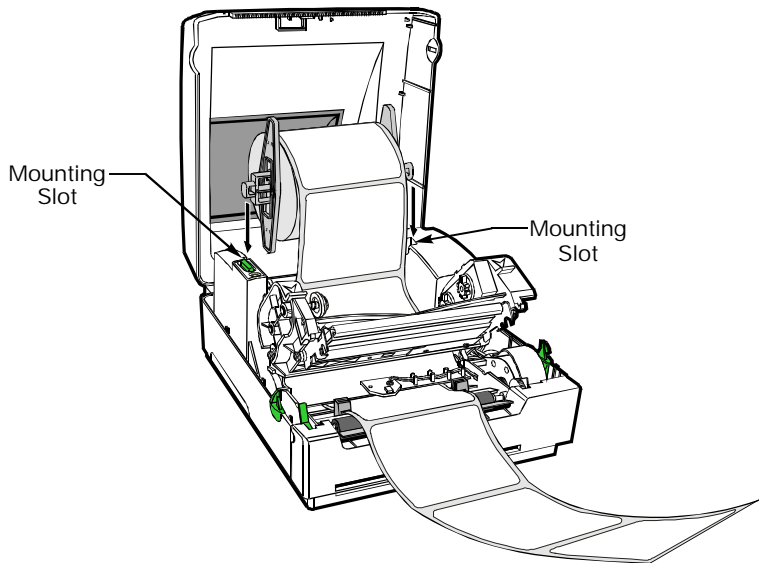

Figure 14
10. Place the media hanger into the two mounting slots (refer to Figure 14).